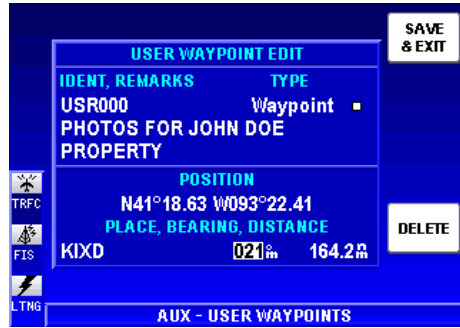

Figure 1-79
16. Use the Joystick to place the cursor over the **BEARING** field as in Figure 1-79.